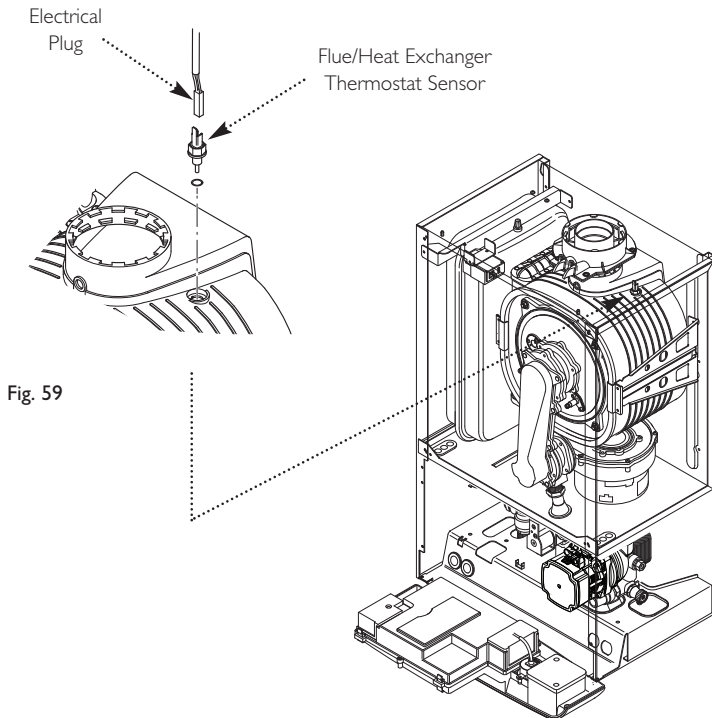

Fig. 59
13.8 Flue/Heat Exchanger Thermostat Sensor (Fig. 59)